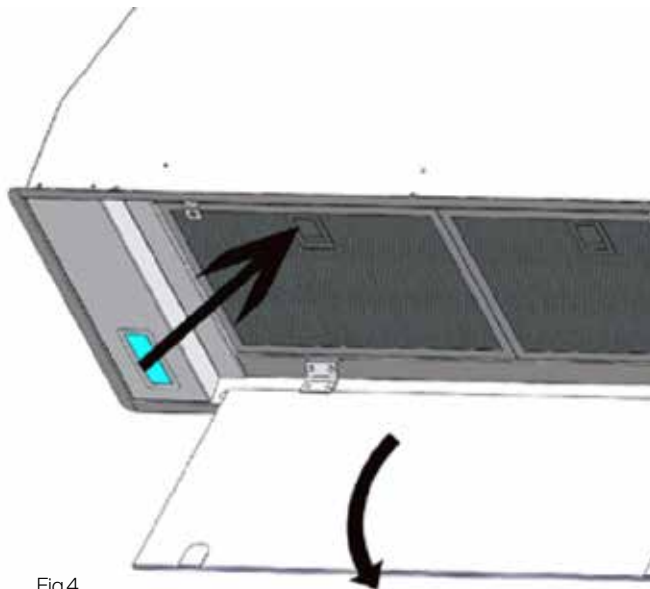
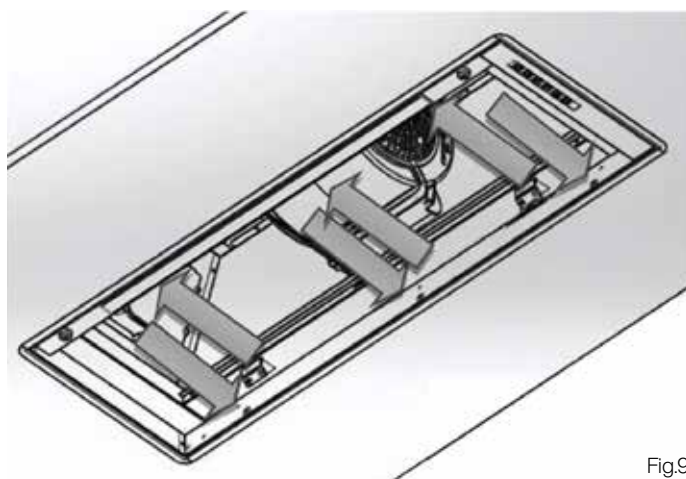

Fig.4
Fig.9
Before installing the appliance - in order not to damage the appliance itself - the metal grease filter should be removed. These filters could be removed by pushing the handles towards the back side of the rangehood and pulling it downwards to unfasten it from its slot. See Fig4
3. Insert the 25mm screws provided into the holes inside the rangehood (Fig.9) to fix it to cabinetry.
To remove the rangehood from the cabinet, remove the fixing screws (Fig.9) using a screwdriver, and remove the grease filters (Fig.4).